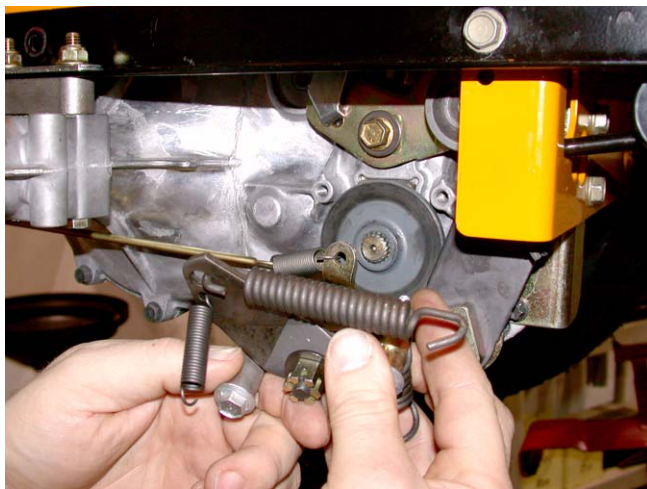

Figure 26.19
26.19. Once the caliper is removed from the transaxle, the brake arm can be unhooked from the spring that connects it to the brake linkage. See Figure 26.19.